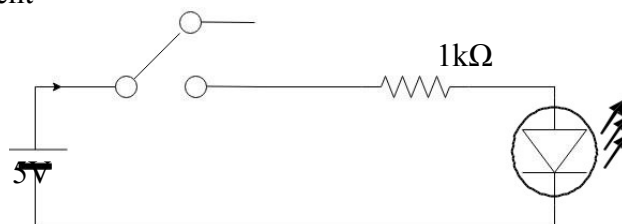

Figure 9: Schematic
4. Make sure that all your circuit components are properly connected to each other. You may need to use wires, cutter or strippers for making connections. Refer to Figure 9 for correct component placement.
Analyze the circuit given in Figure 9. Comment on, what will happen when we decrease and increase the resistance values in this circuit.